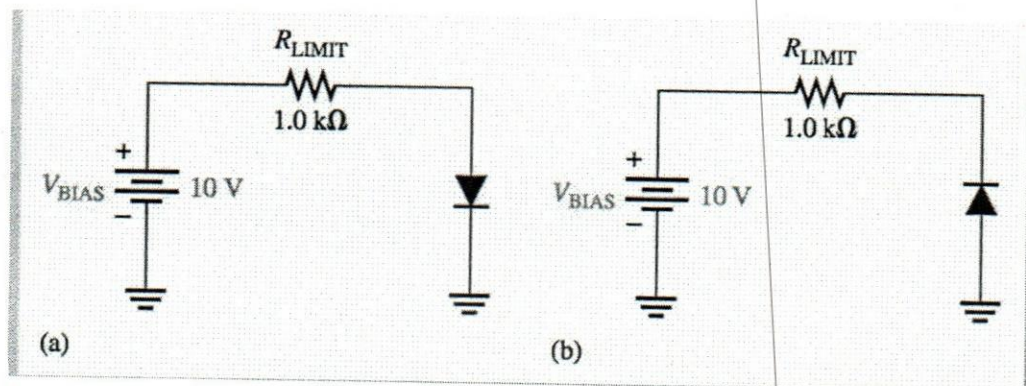

Figure 4.1
1) Determine the forward voltage and forward current for the diode in Figure 4.1 (a) for each of the diode models. Also, find the voltage across the limiting resistor in each case. Assume $r'_d = 10 \Omega$ and determine the value of forward current
2) Determine the reverse voltage and reverse current for the diode in Figure 4.1 (b) for each of the diode models. Also, find the voltage across the limiting resistor in each case. Assume $I_R = 1 \mu A$